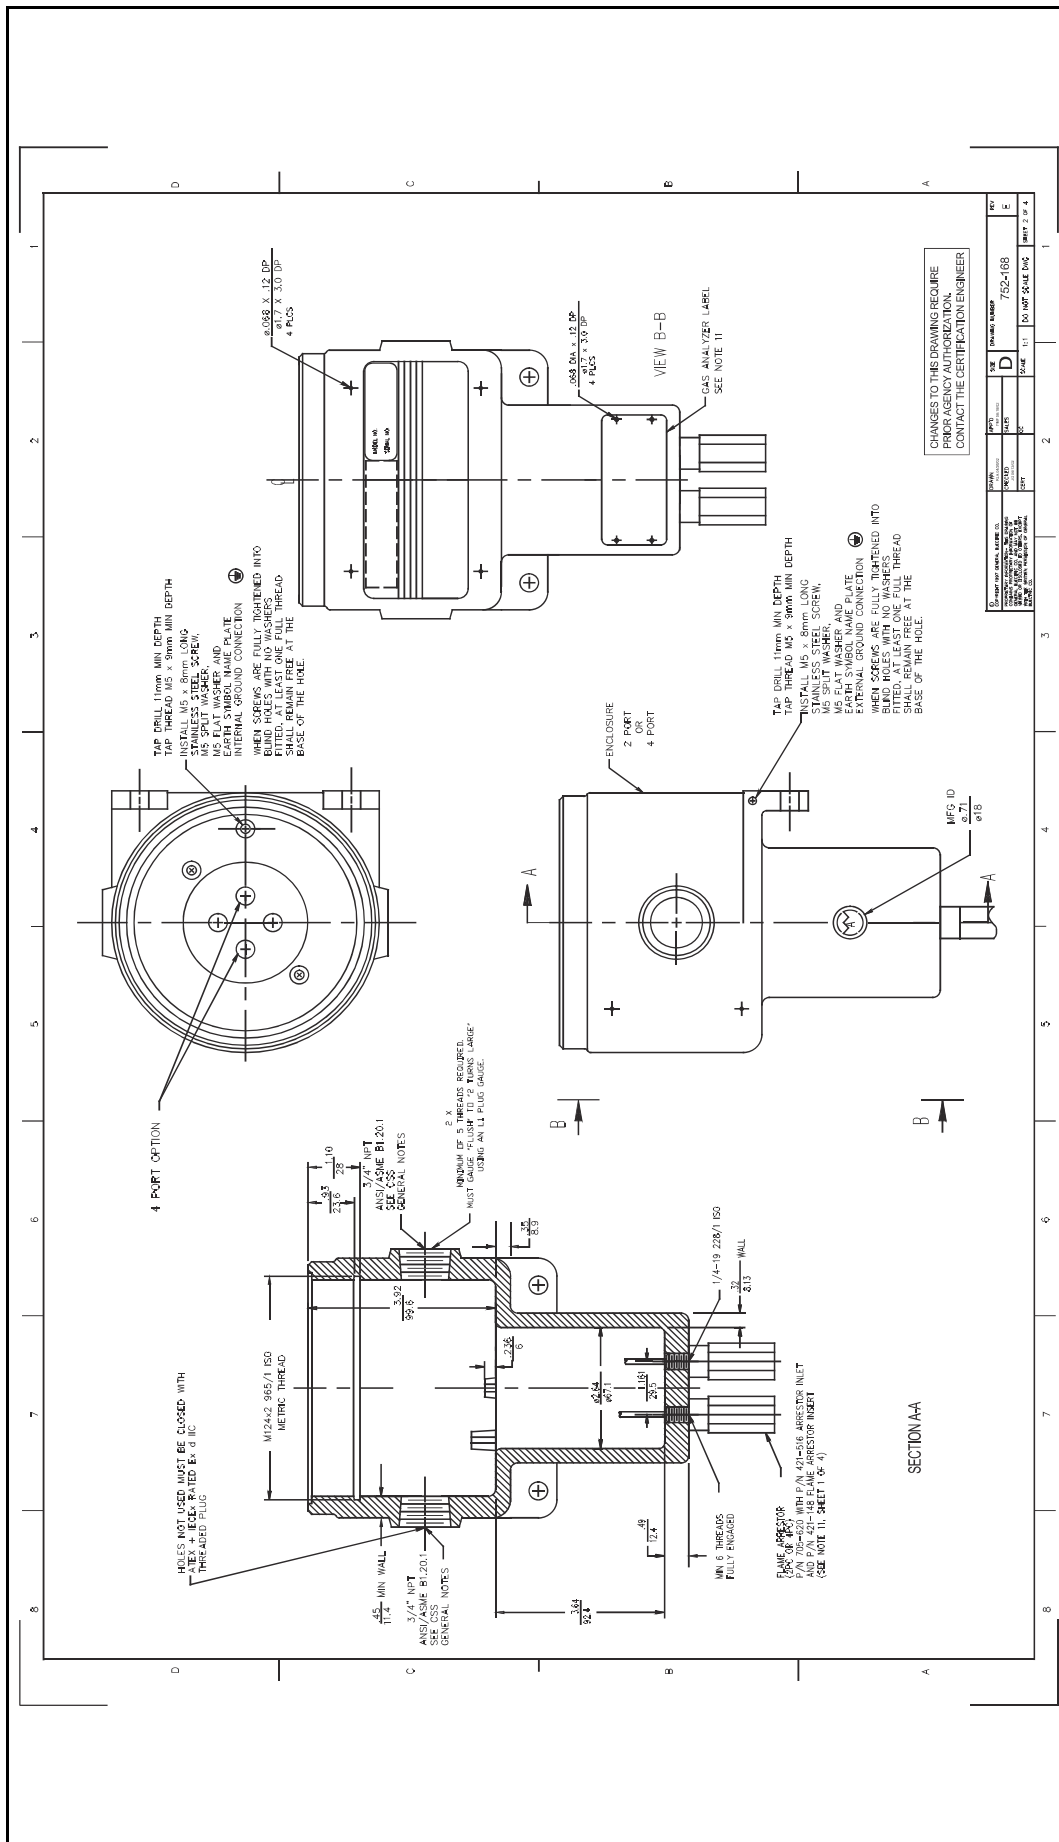

Figure 61: Certification drawing (ref, 752-168, Rev. E, SH2)
- *Figure 61: Certification drawing (ref. 752-168, Rev. E, SH2) on page 45*